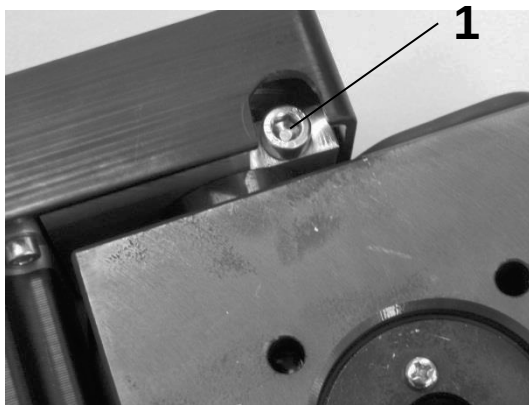

Fig. 8
1. See Fig. 8: Release the Allen screw Pos.1 shown here.